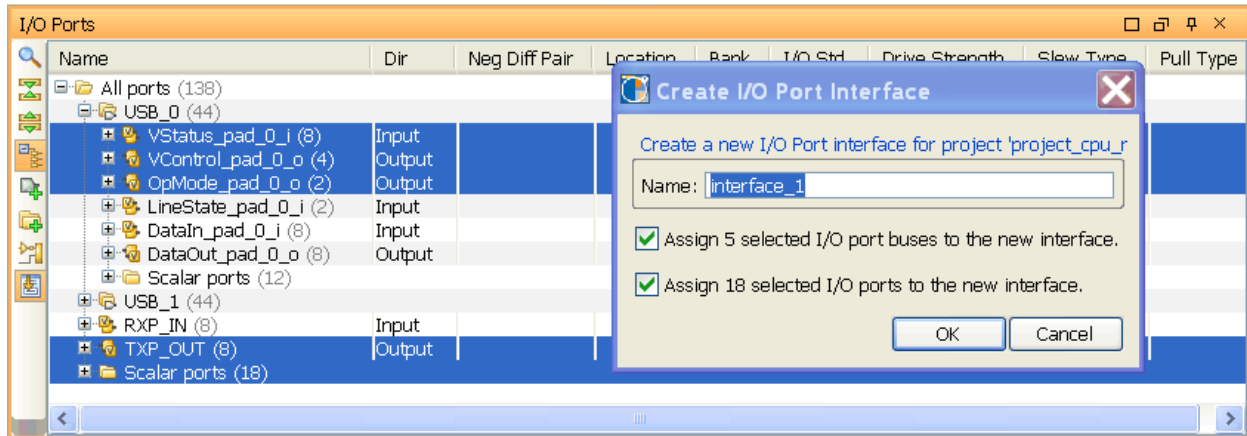

Figure 8-18: Create I/O Ports Interface
2. From the popup menu, select **Create I/O Port Interface** as shown in Figure 8-18, page 256.